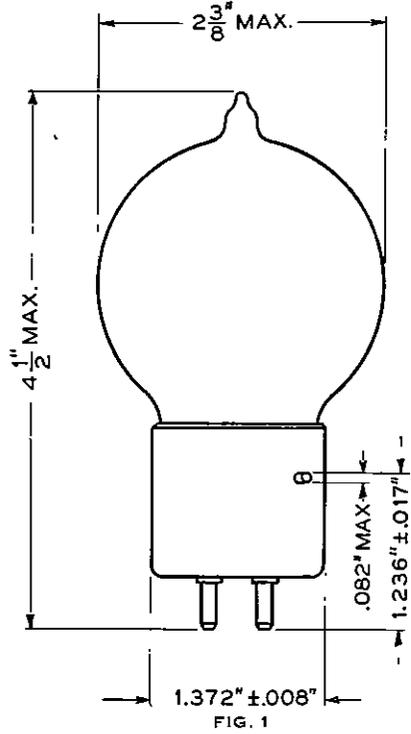

FIG. 1
**Dimensions**—Dimensions, outline diagrams of the tube and base, and the arrangement of the electrode connections to the base terminals are shown in Figures 1 and 2.